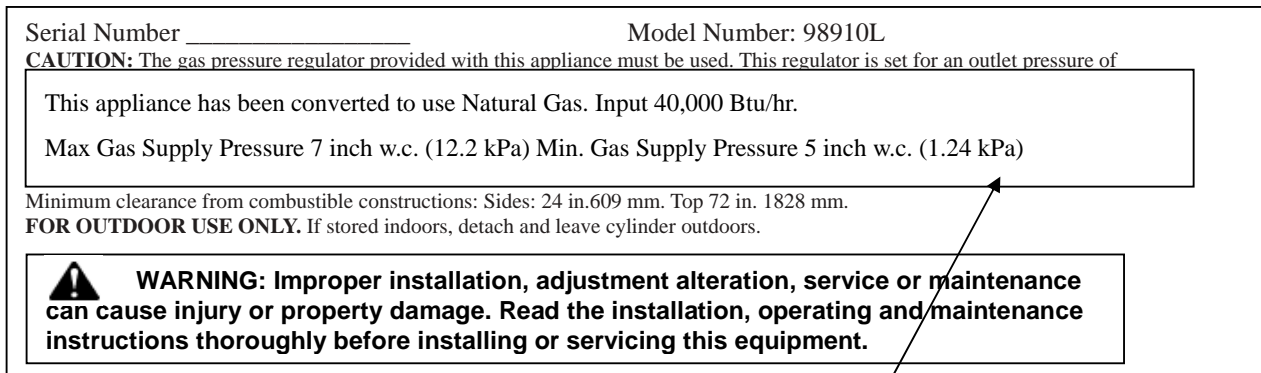

Figure 17
- Stick the conversion label on the rating plate as shown in Fig. 17.